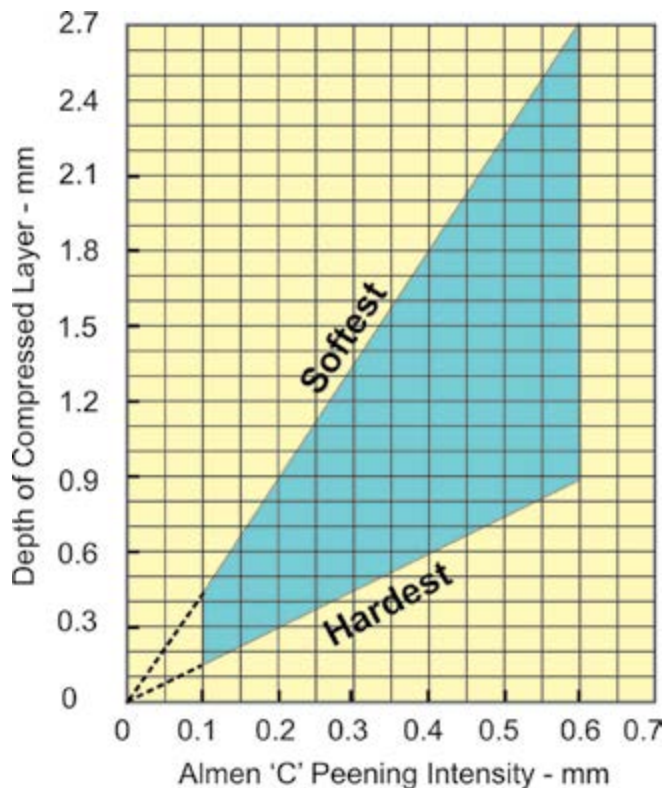

Fig.6. Guideline Diagram for Conversion of Almen 'C' intensity to Depth of Compressed Layer.
- (2) A specified range of 0.30-0.45 mm Almen 'C' intensity means that we multiply the minimum 0.30 mm by three (to give 0.90 mm) and then divide by 20 (to get 5%) giving 0.045mm. Using fig.6 indicates that the compressed layer depth (for hardest material) would be about 0.45mm. Removing 0.045 mm from 0.45 mm is 10%.
- (4) A specified range of 0.30-0.45 mm Almen 'C' intensity means that we multiply the minimum 0.30 mm by three (to give 0.90 mm) and then divide by 10 (to get 10%) giving 0.090mm. Using fig.6 indicates that the compressed layer depth (for material of average hardness) would be about 0.90 mm at 0.30 mm Almen 'C' intensity. Removing 0.090 mm from 0.45 mm is, yet again, 10%.